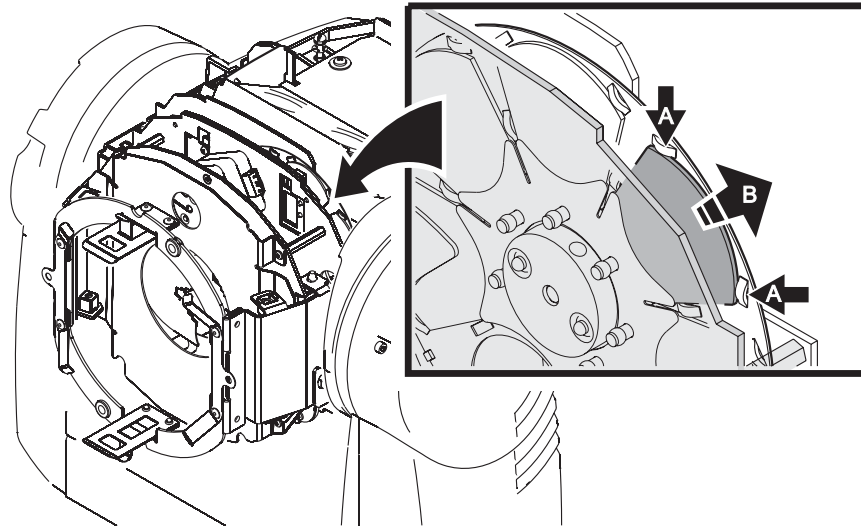

Figure 6
7. A set of six beam effect gobos (P/N 62420250) is supplied in the Kit. See Figure 6. To install a beam effect gobo, remove a color filter from the color wheel by pressing it gently away from its retaining tabs (A) and lifting it carefully out of the color wheel (B).